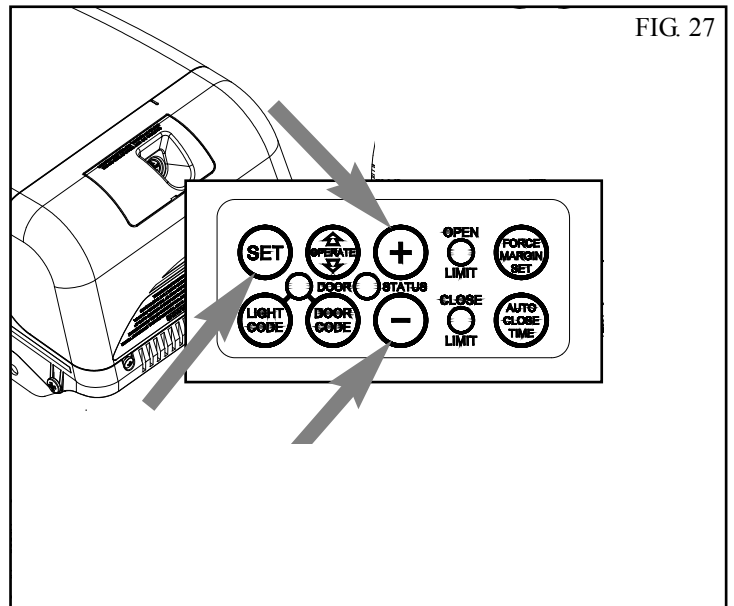

FIG. 27
1. Press red Minus (-) button and hold it, the door will start closing. Release the button once you have reached your desired closed limit position. (Fig. 27)